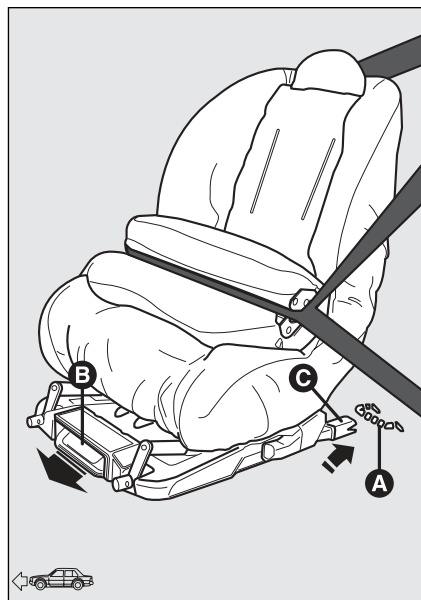

fig. 17
- ☐ check whether the release lever **B**-**fig. 17** is at rest position (inward);